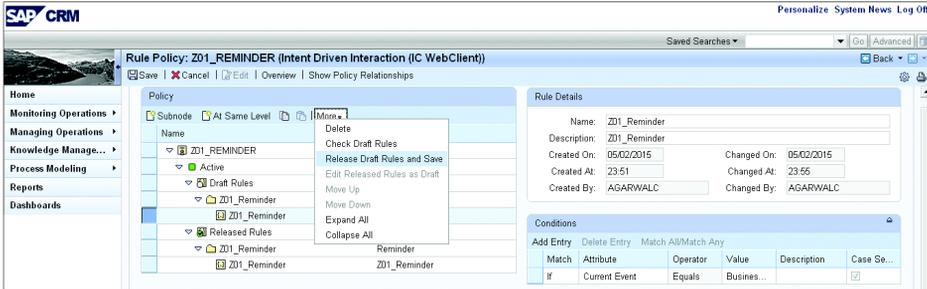

Figure 4.126 Checking the Draft Rules and Releasing It
5. Click **MORE • CHECK DRAFT RULES**, and then select **RELEASE DRAFT RULES AND SAVE** (see Figure 4.126).